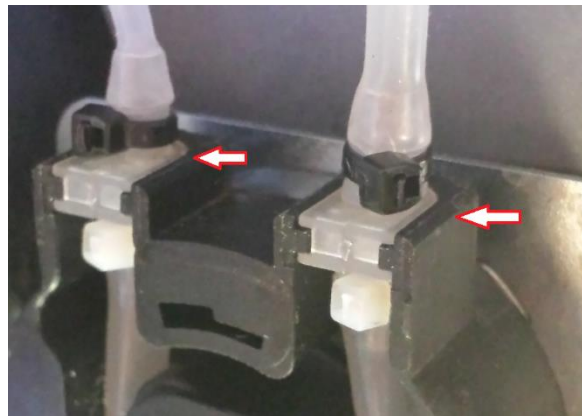

Figure 30
33. Starting on the left side of the wash pump, insert the grooves of the collar on the new tubing into the slot on the wash pump. Slowly work the tubing into the wash pump in a counter-clockwise direction. Once the tubing is in place, insert the grooves of the collar on the new tubing into the slot on the right side of the wash pump. Figure 30 shows correct placement for tubing.